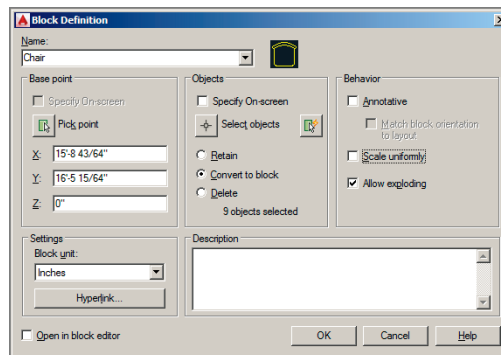

FIGURE 7.5 Defining a chair block
16. Every block has a *base point*, which should be related to its geometry. Click the Pick Point button in the Base Point section; the Block Definition dialog box disappears. Hold Shift, and right-click to open the context menu; select Midpoint. Click the midpoint of the chair's front edge. The Block Definition dialog box reappears, showing the coordinates of the point to which you snapped (see Figure 7.5).